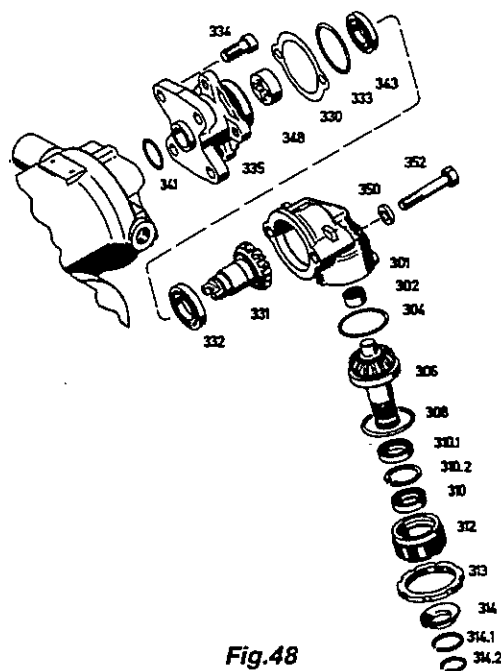

Fig.48
17.1.1 Fit intermediate flange (335)
Slip O-ring (341) onto intermediate flange (335). Press cross disc (348) and ball bearing (343) onto intermediate flange (335) (**Fig.48**). Use tool [28] for this purpose.
Press needle sleeve (302) into housing (301) as far as possible with tool [29] (**Fig.48**).